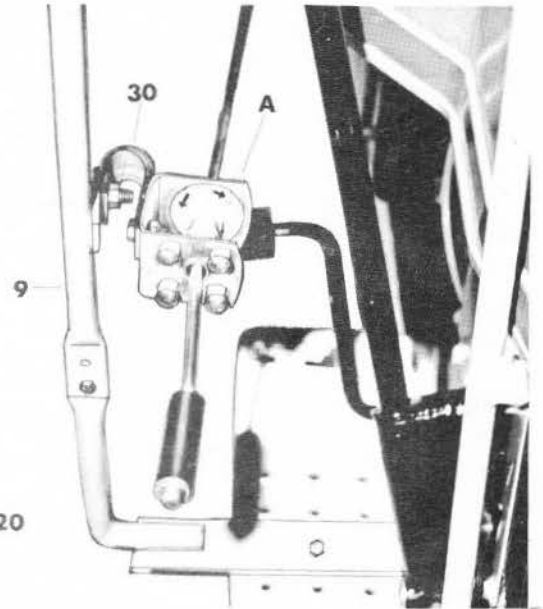

FIGURE 20
2. This section pertains to GTV tractors. SEE FIGURE 20:
- A. Remove the 5/16" x 3/4" bolt which attaches the discharge chute control crank bracket (Part "A" in figure 20) from the vertical rod of the snowblower. Then, remove the hairpin cotter from the bottom end of the discharge chute control crank support rod and the two hairpin cotters of the bracket which holds that support to the left hand step plate. Remove that rod from the snowblower frame underneath the tractor. This rod will be replaced by a 14 1/2" x 5/8" rod supplied with the tractor. Insert the new rod and use two hairpin cotters to secure it in place.